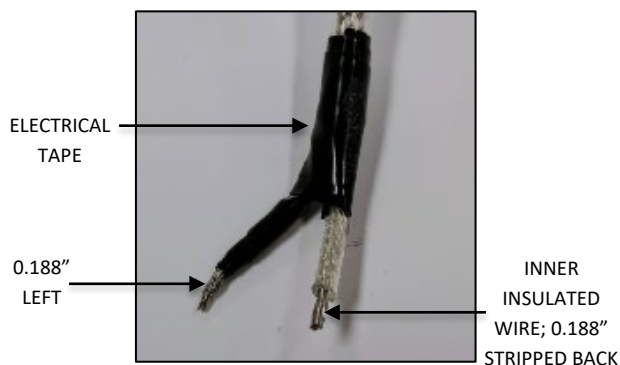
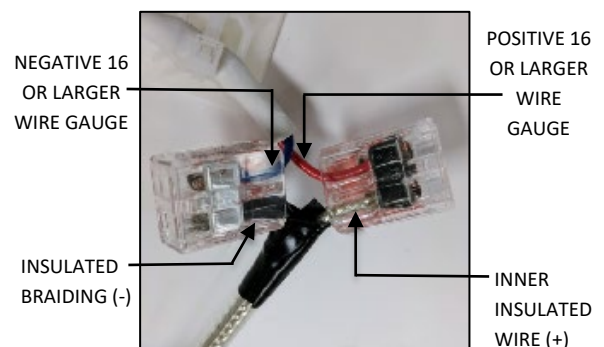

FIG. 37
FIG. 38
3. Using electrical tape, insulate the twisted strands leaving 0.188" exposed for connections. Strip off 0.188" of the inner insulation as you normally would for 18AWG stranded core wire as shown in FIG. 37 below. Connect the inner insulated wire (+) to the positive 16 gauge or larger wire ran in step 5 at the hanging bracket and Connect the outer braiding (-) to the negative 16 gauge or larger wire ran in step 5 at the hanging bracket FIG. 38 below.